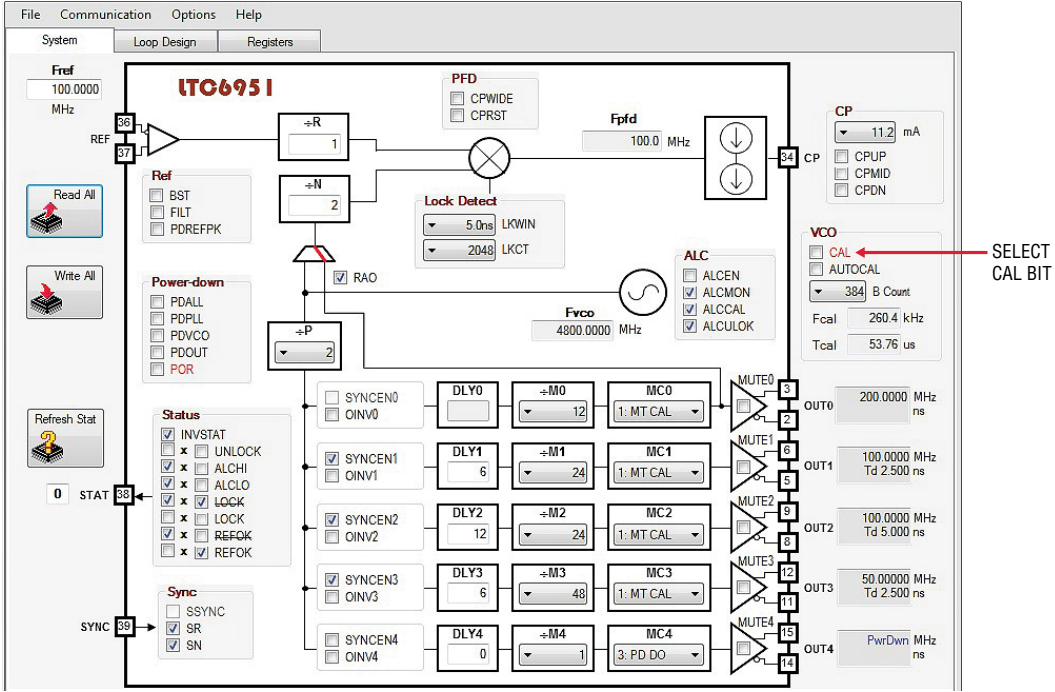

Figure 4. LTC6951 Settings
- d. Select CAL bit from the LTC6951 Wizard. The DC2248A's red STATUS LED (D1) should illuminate. A 200MHz signal should be present on the OUT0 outputs. Refer to Figure 4.